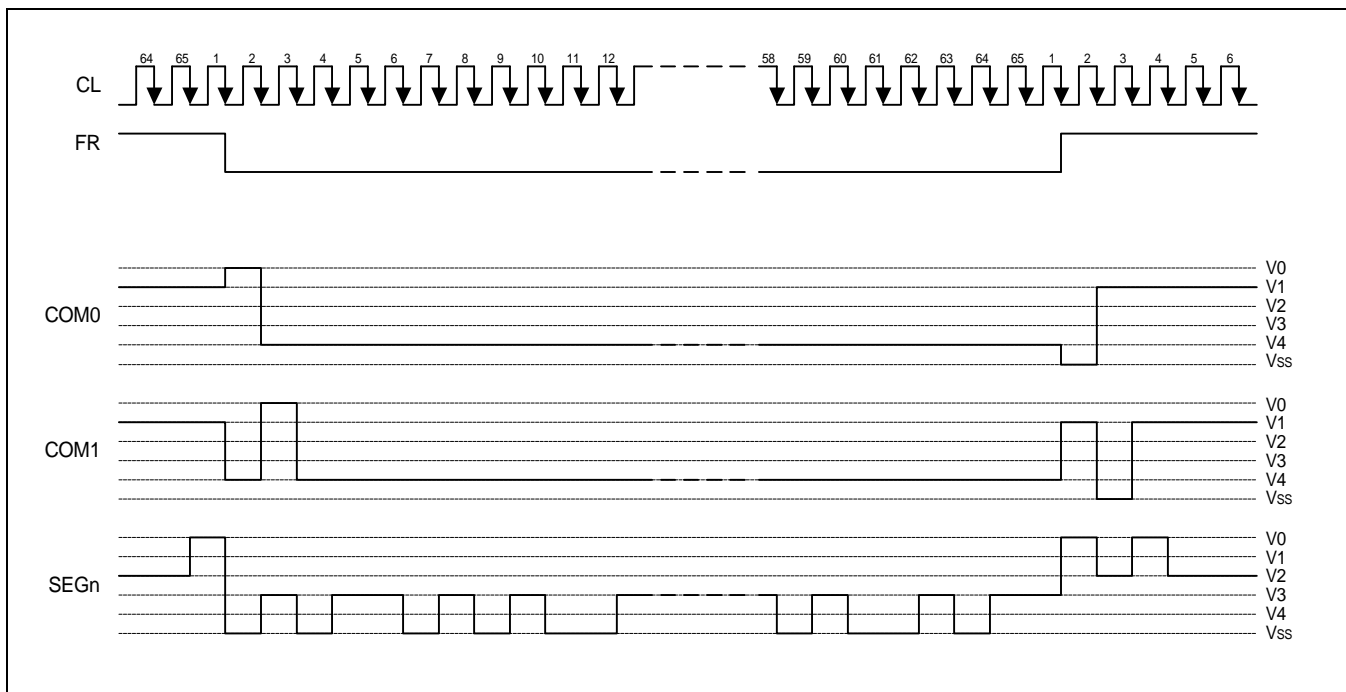

Figure 9. 2-frame AC Driving Waveform (Duty Ratio = 1/65)
This circuit generates some signals to be used for displaying LCD. The display clock, CL generated by oscillation clock, generates a clock to the line counter and a latch signal to the display data latch. The line address of on-chip RAM is generated in synchronization with the display clock (CL) and the 132-bit display data is latched by the display data latch circuit in synchronization with the display clock. The display data which is read to the LCD driver is completely independent of the access to the display data RAM from the microprocessor. The LCD AC signal, M is generated from the display clock. 2-frame AC driver waveforms with internal timing signal are shown in figure 9.